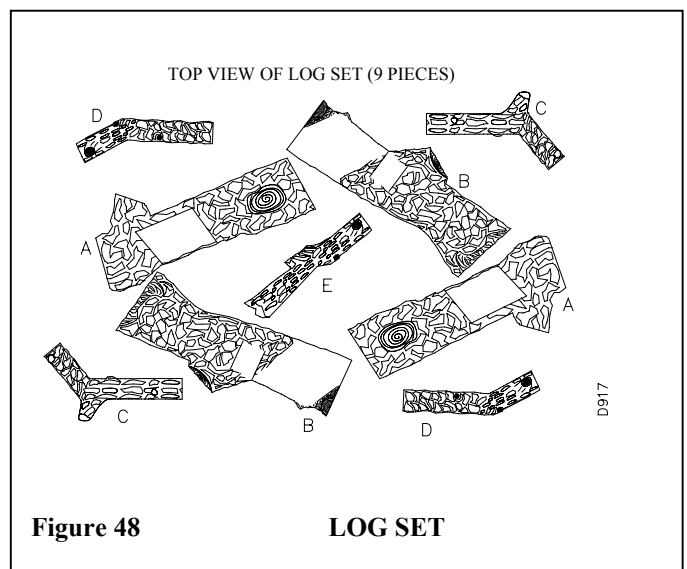

Figure 48 LOG SET
4. Figure 48 shows the log set. Logs "A" have the knot at the end of the log. Logs "B" have the knot at the middle of the log. Twigs "C" have the shape of a "Y". Twigs "D" have the shape of a bent twig. Twig "E" is a straight twig, which is placed across the top of Logs "B".